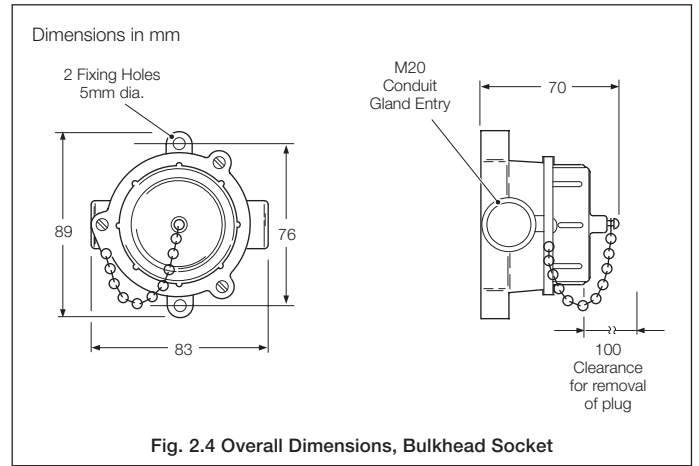

Fig. 2.4 Overall Dimensions, Bulkhead Socket
2.5 Installing the Bulkhead Socket – Fig. 2.4
Mount the socket at a convenient location close to the cell. Refer to Fig. 2.4 for overall dimensions and fixing details.